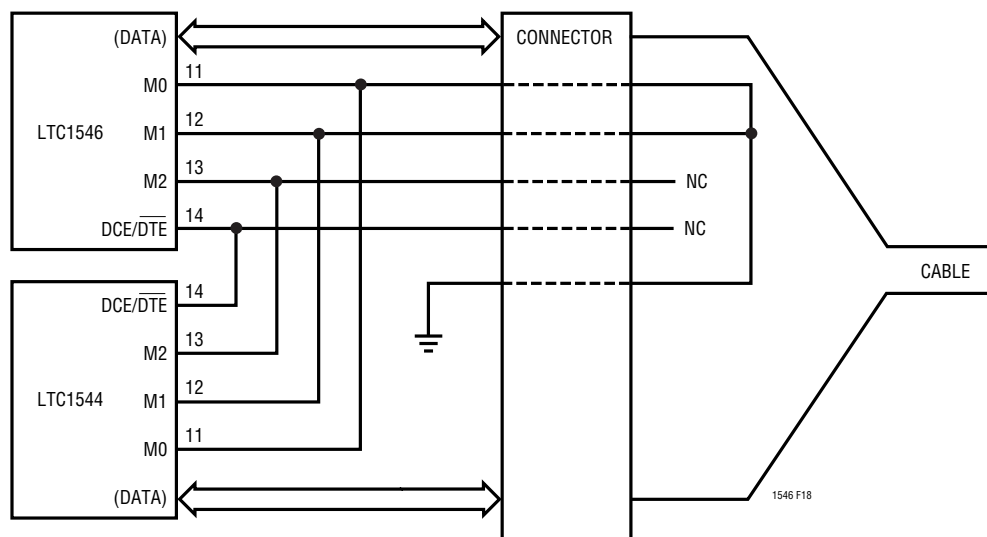

Figure 18: Single Port DCE V.35 Mode Selection in the Cable
The interface protocol may be selected simply by plugging the appropriate interface cable into the connector. The mode pins are routed to the connector and are left unconnected (1) or wired to ground (0) in the cable as shown in Figure 18. The internal pull-up current sources will ensure a binary 1 when a pin is left unconnected.